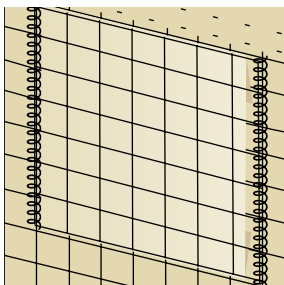

Figure 5
- Close the welded mesh patch over the area of repair, then wind in the right-hand coil (*Figure 5*).